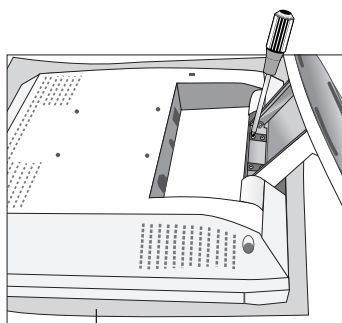

Figure R.2
3. Remove the 4 screws connecting the monitor to the stand and lift off the stand assembly (**Figure R.2**).